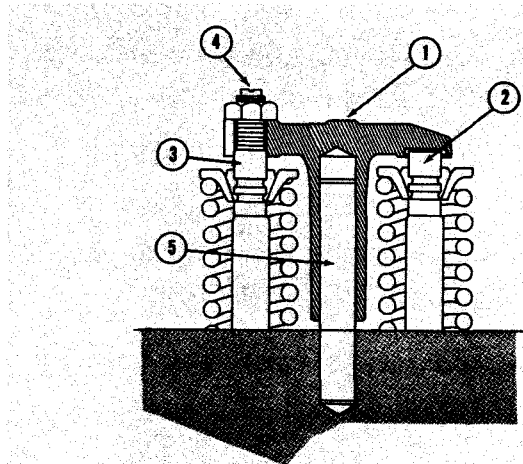

Fig. 2-63, (N21461). Valve crosshead
1. Loosen valve crosshead adjusting screw locknut and back off screw (4, Fig. 2-63) one turn.